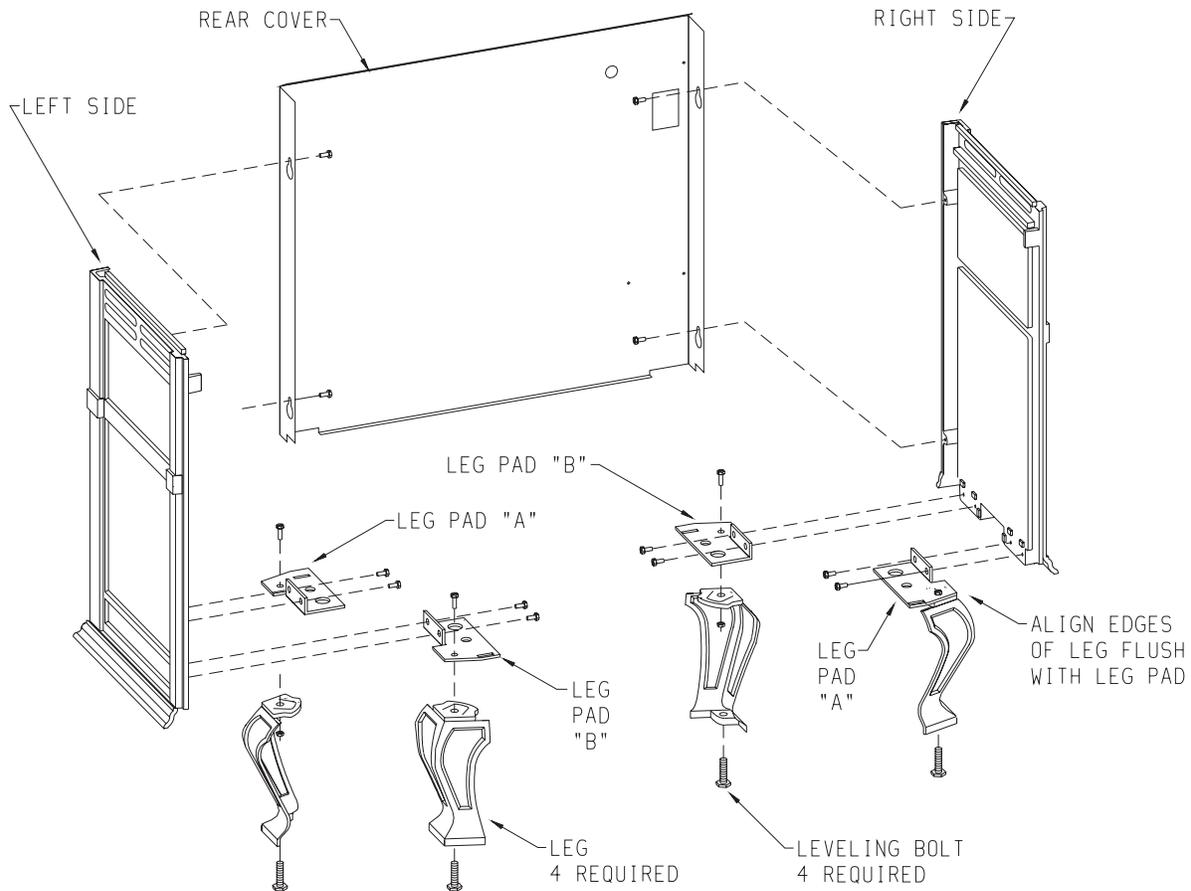

Figure 6
## Assembly of Stove Casting (Figures 6, 7, 8, 9, 10, 11 and 12)
- A. Attaching legs to the sides (Figure 6).
3. Refer to Figure 6, the leg pads will have the letter "A" and "B" stamped into the metal. Place leg pad "A" and leg pad "B" at the bottom of each casting side. Leg pad "A" attaches to the front of the casting side, right and to the rear of the casting side, left. Leg pad "B" attaches to the rear of the casting side, right and to the front of the casting side, left. Position the 3/4" flange on the leg pad against the (2) locator dimples on the casting side. The 3/4" flange must be facing upward, toward the top louver openings on the casting side. Attach the two **rear** leg pads to the casting sides with (2) 3/8" bolts. Attach but do not completely tighten the two **front** leg pads to the casting sides with (2) 3/8" bolts. **Attention:** The front leg pads can be adjusted to provide a snug fit between the casting front and the casting sides.
4. Attach (4) leveling bolts to the bottom of the (4) legs.